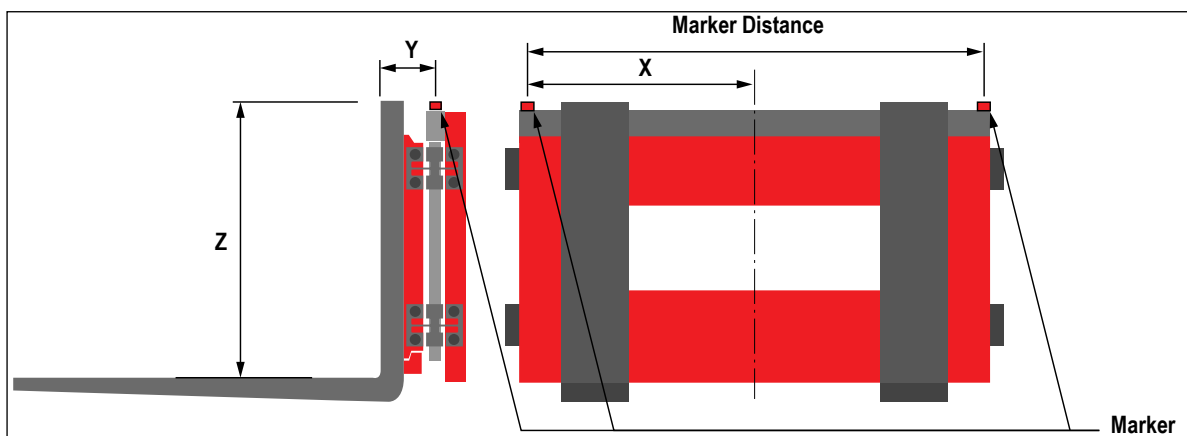

Figure 3-34. Carriage Measurement Diagram
**NOTE:** Figure 3-34 identifies the measurements defined in the forklift database once a bracket has been installed. The values below are entered into the forklift database in mm.